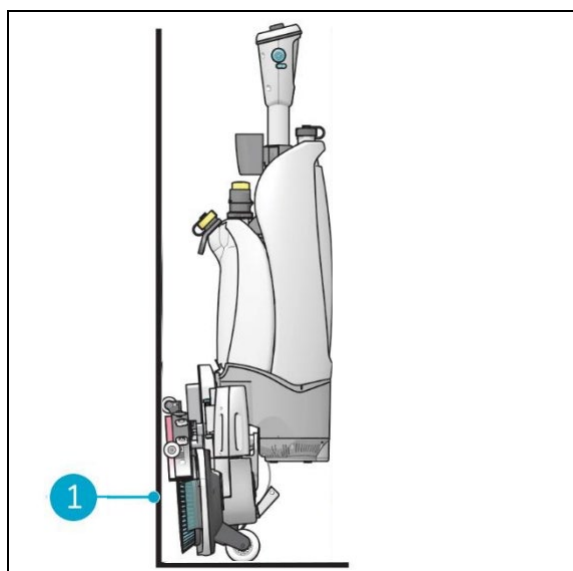

Figure 30
3. Store the i-mop XXL Pro close to a wall (Figure 30, pos 1) with the handle pointing facing away from the wall and the brushes towards the wall.